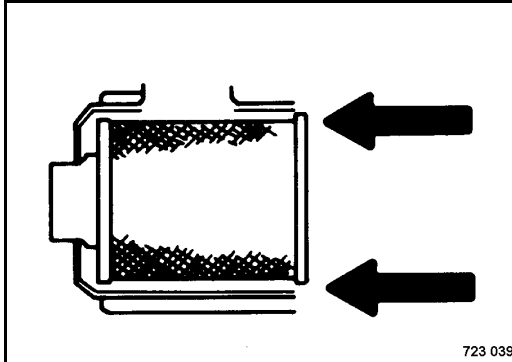

Fig. 144
- Insert the main filter element (Fig. 144).